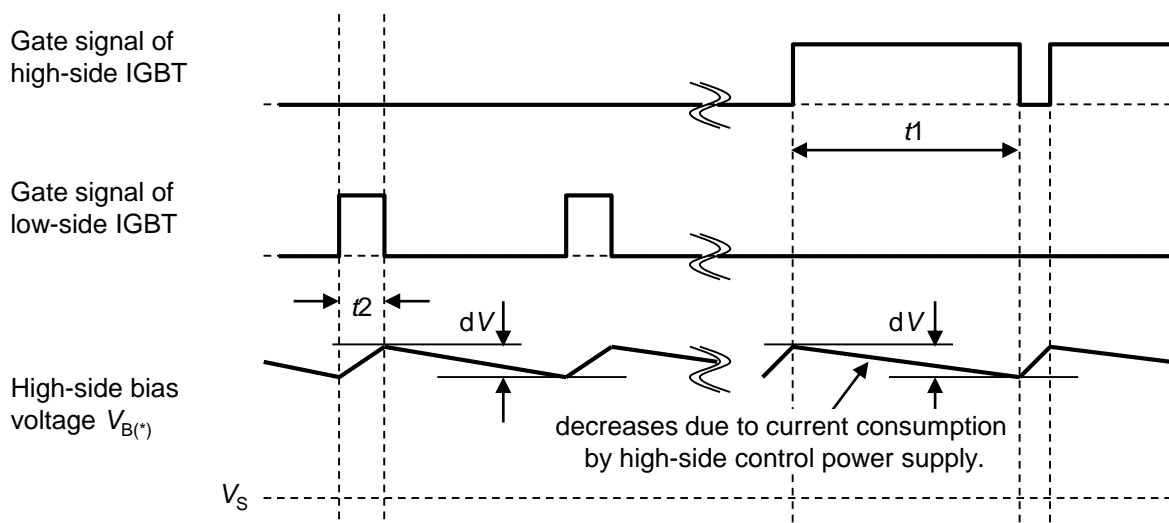

Fig. 3-10 Timing chart of charging and discharging operation
- \*  $dV$  : allowable discharge voltage of  $V_{B(*)}$  (refer to Fig.3-10)
In the case of the control mode which only the high-side IGBT performs switching operation (Fig. 3-10), the time constant should be set so that the discharged voltage can be fully recharged again during the high-side IGBT OFF (low-side FWD ON) period.